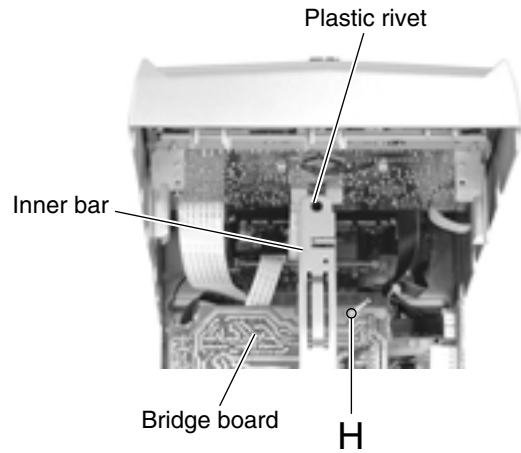

Fig.21
■ Removing the bridge board / regulator board / heat sink (See Fig.21 ~ 27)